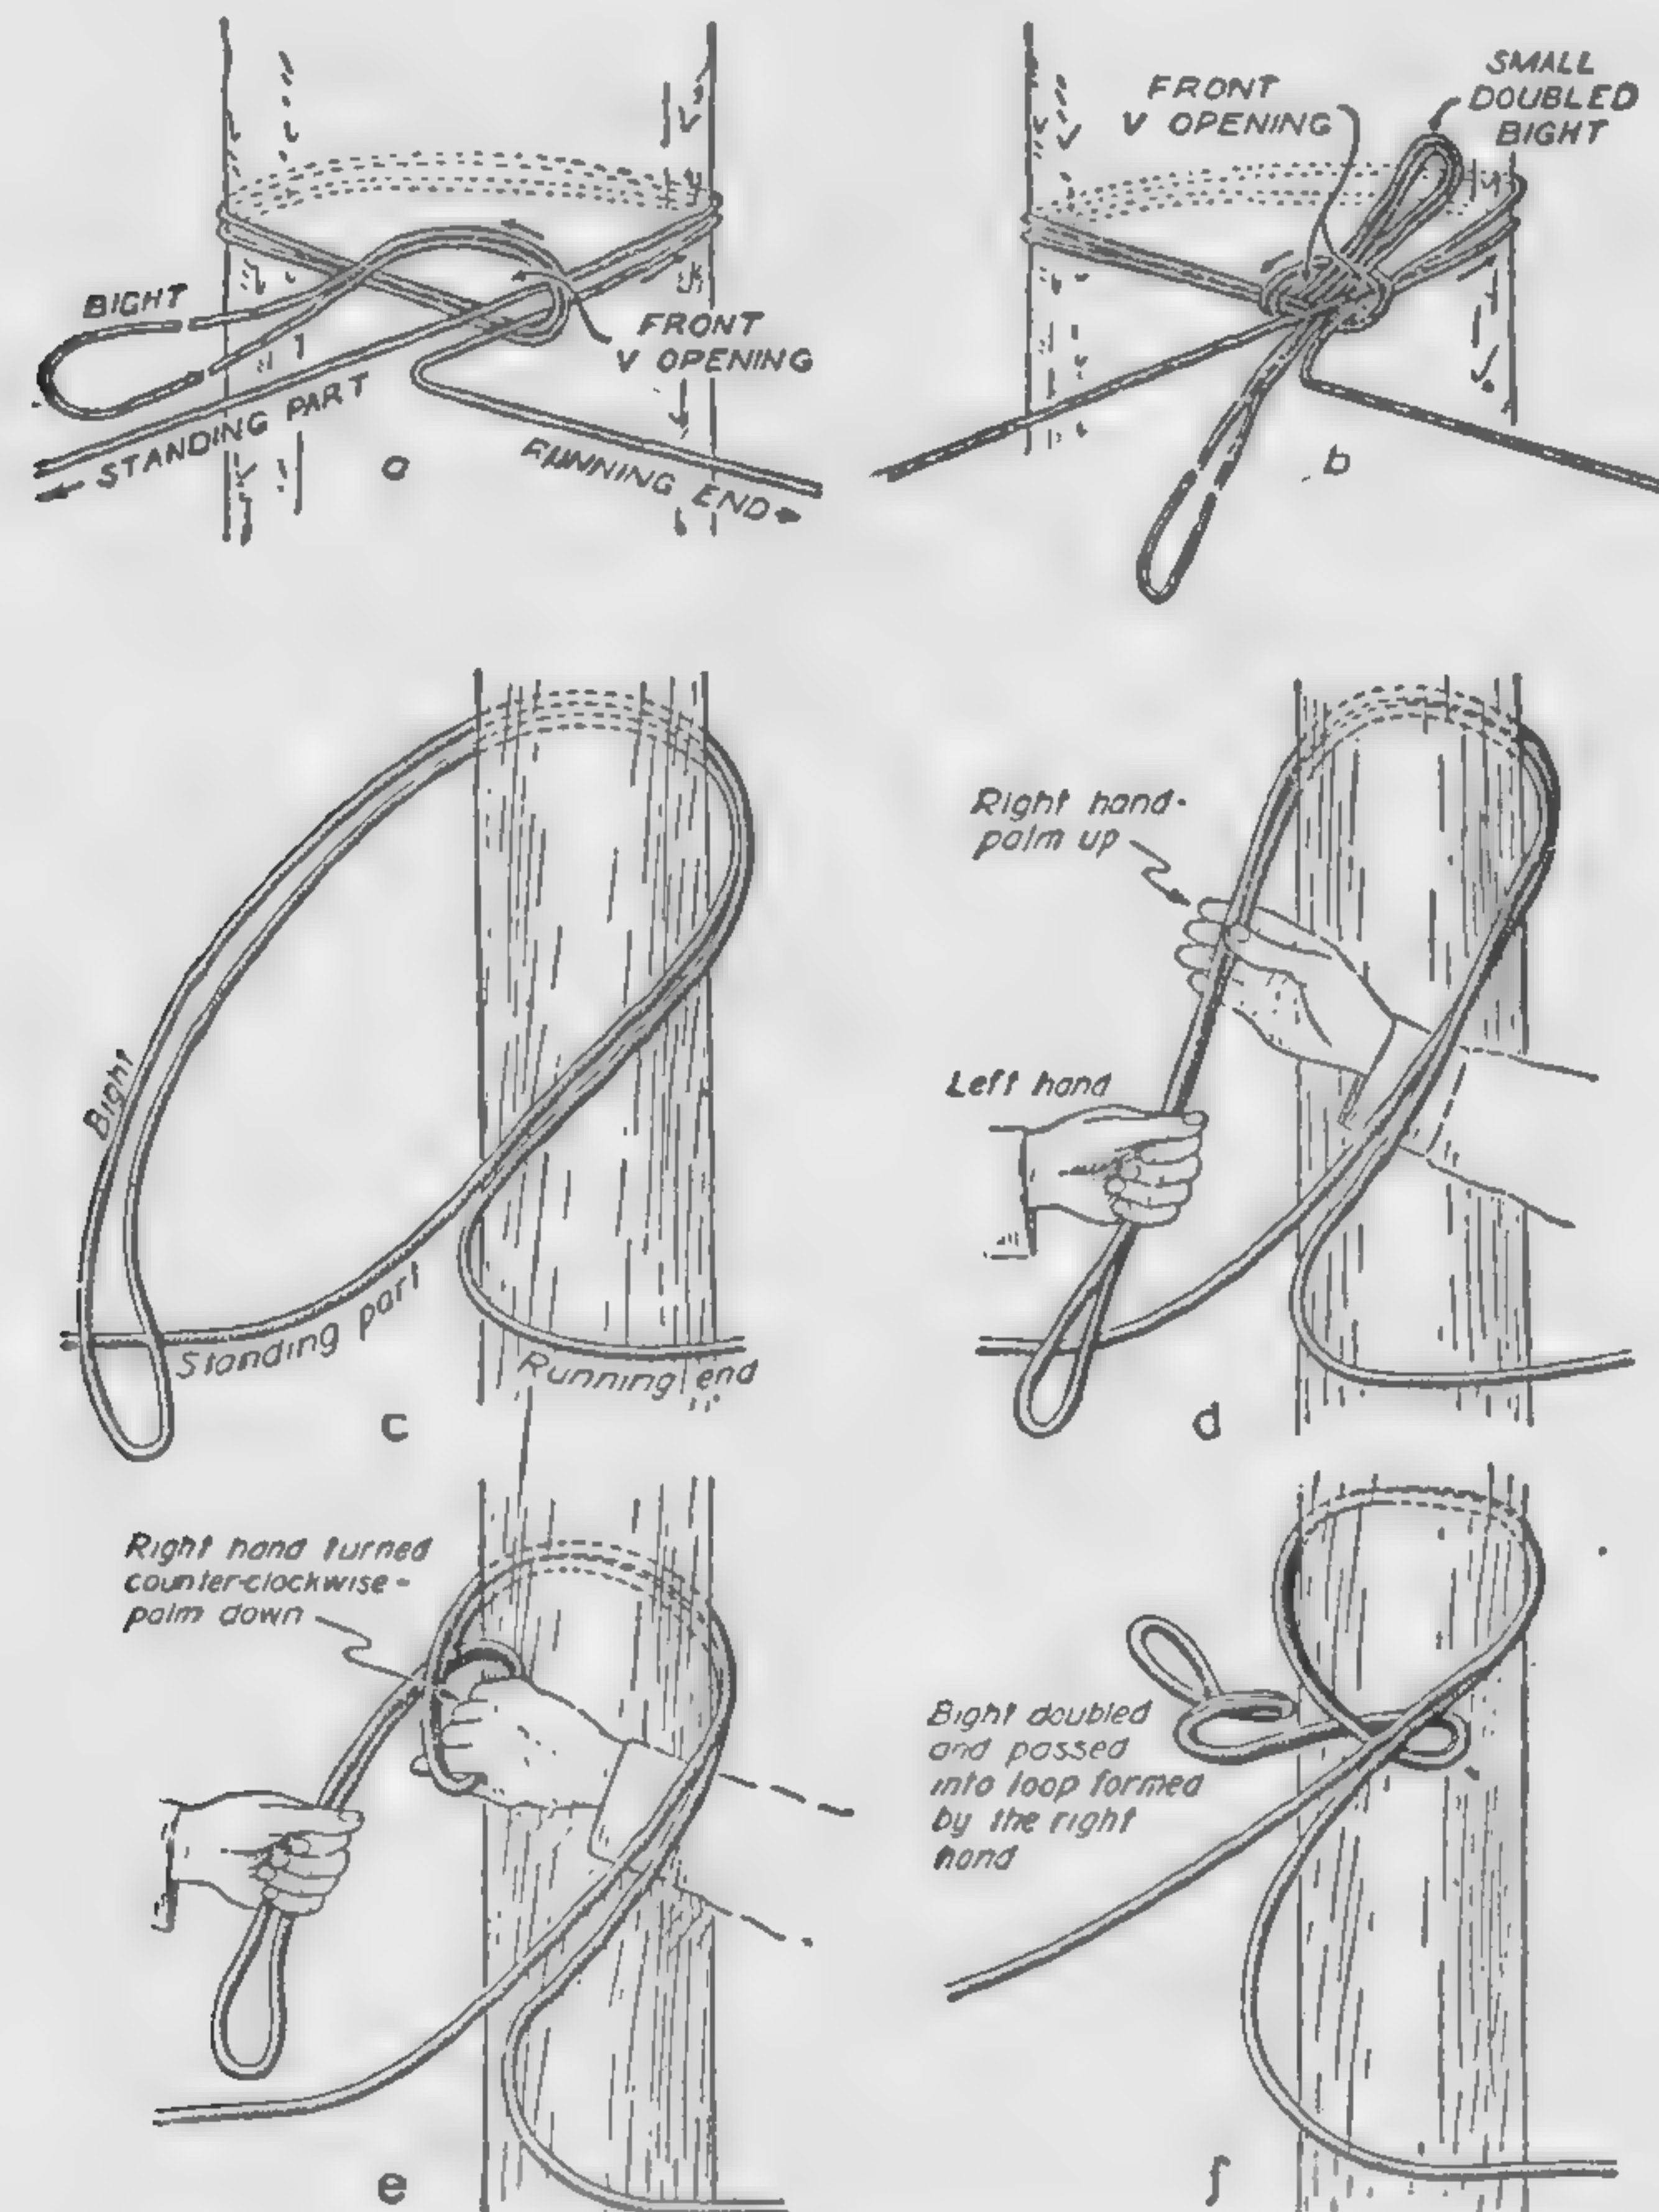

Fig. 23. Loop Knot Ties Showing only One of the Two Conductors
Other Knot Ties. When the end of the object to which the wire is to be tied is not exposed, one of the three ties described in the following is used. All three permit tying the wire without cutting it. For simplicity, Figs. 23 and 24 show only one of the two
side from which the wire has been laid. If the greater strain is on the running end, place the bight around the object from the front in the opposite direction. Bring the bight under and then over both the standing part and the running end, forming the front V opening shown in Fig. 23. Reach through this opening and pull through it about 6 inches of the doubled bight as shown in Fig. 23 at b. Tighten the tie, being sure that it rests against the object.
2. An alternate satisfactory loop knot tie may also be made as follows (Fig. 23 at c, d, e, and f): After placing the bight around the object as in the tie just described, hold the bight in the left hand, passing the right hand under the standing part and running end, and grasping the bight with the right hand, palm up; turn the hand in a counterclockwise direction, pulling the loop under the standing part and running end; double the bight and pass